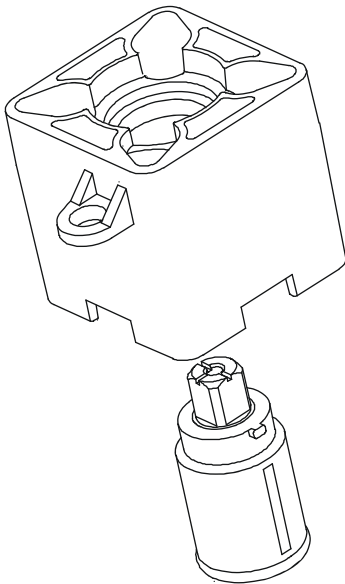

Figure 17: Installing the Drive Shaft into the Thermal Barrier
1. Install the thermal barrier drive shaft into the thermal barrier by aligning the tab on the drive shaft with the slot on the thermal barrier (Figure 17).